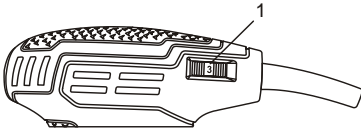

Fig. 7
To run the sander at a medium speed, set the speed control wheel (1) to #3 (Fig. 7). To run the sander at its slowest speed, rotate the speed control wheel to #1. To run the sander at higher speeds, rotate the speed control wheel to a higher number on the wheel. The sander will be running at its maximum speed when the speed control wheel is set at "MAX".